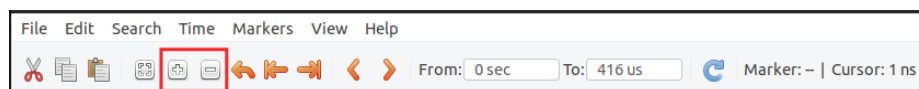

Figure 85. Zoom in
9. Zoom in several times so that you can view the clock signal change (Figure 85).